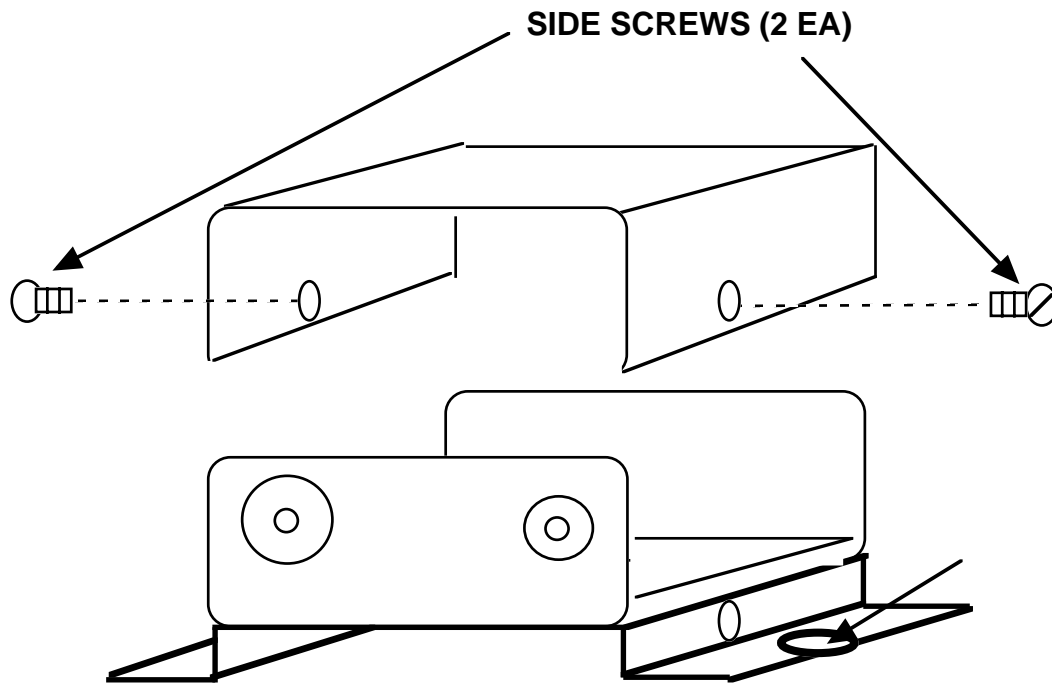
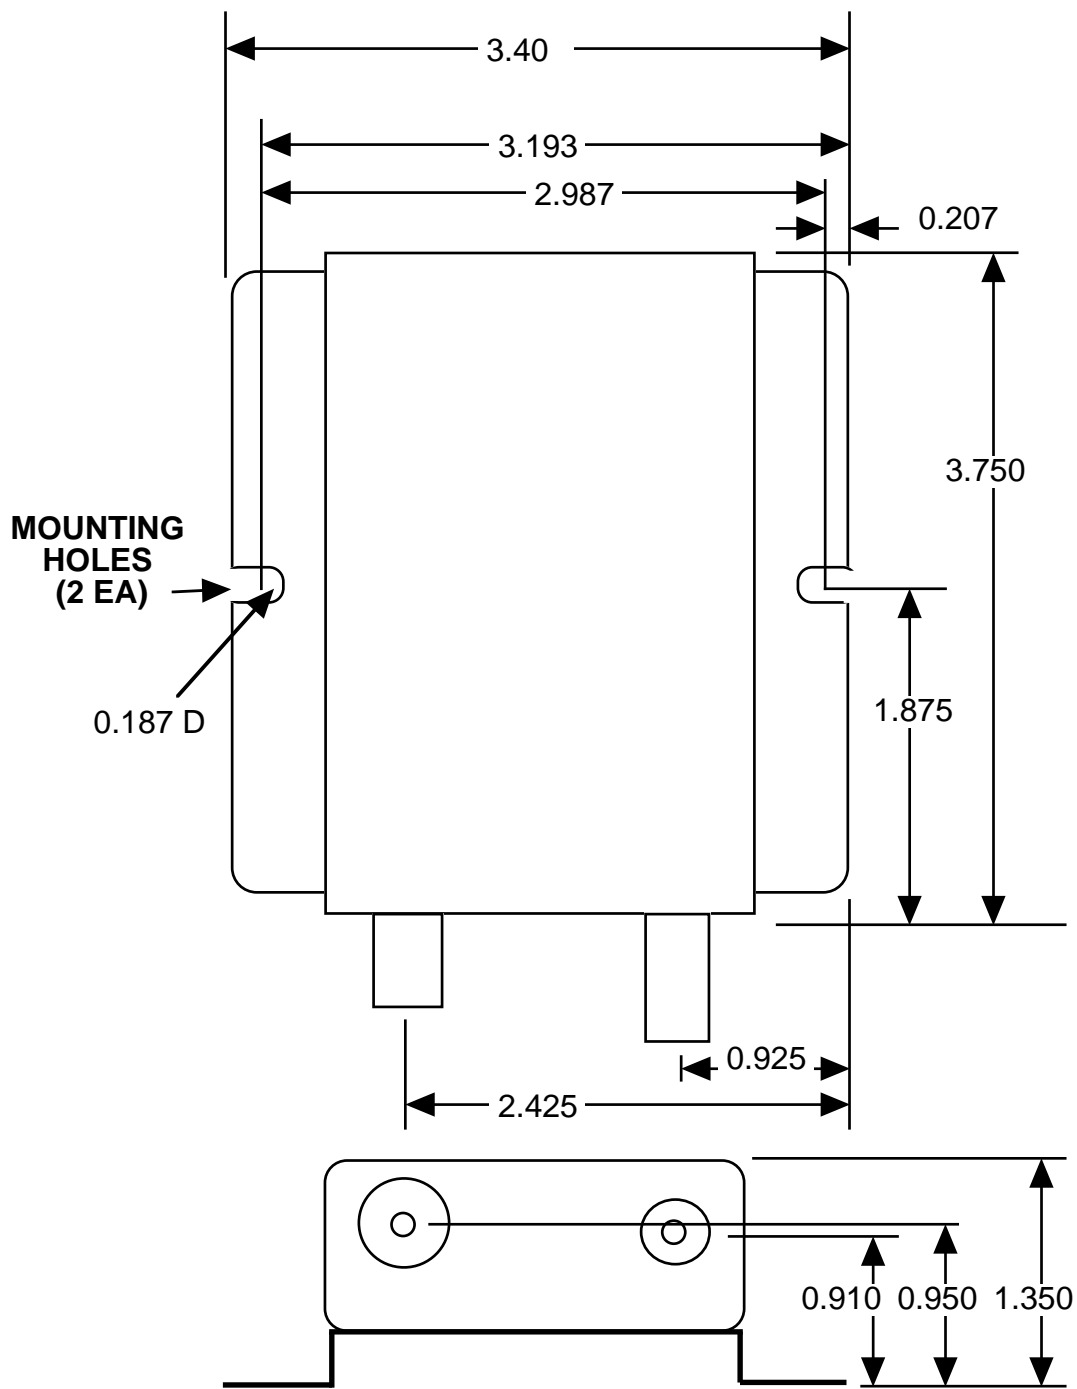

FIGURE 2.1 2006-02 Mechanical Assembly
FIGURE 2.2 2006-02 Package Dimensions
The 2006-02 is packaged in an aluminum chassis. The unit can be mounted to a panel using the 2 holes at the bottom. The unit derives +DC (+14 to +20 VDC) from the RF out center conductor. (See Figure 2.1 and Figure 2.2).
- 1.) Secure the 2006-02 to a panel using the two bottom mounting holes (see Figure 2.1 and Figure 2.2)